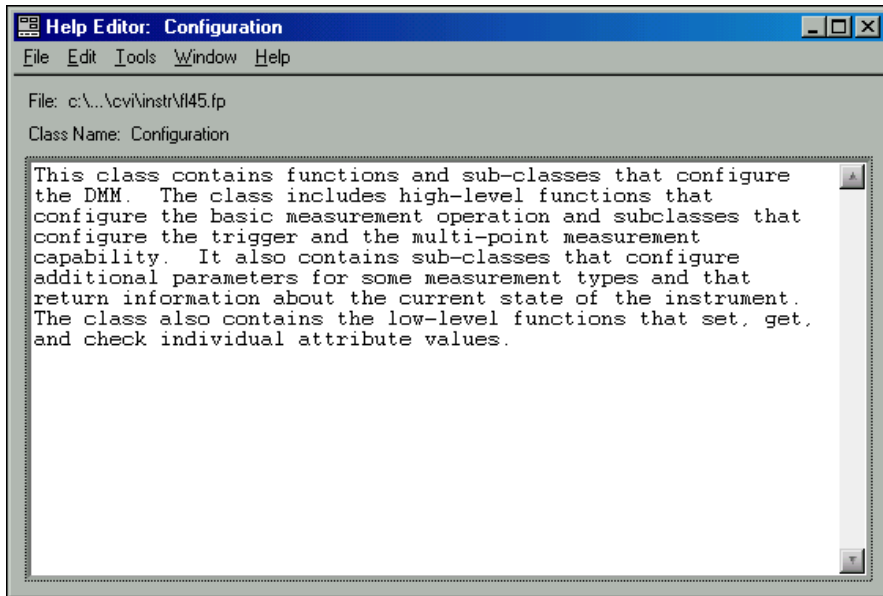

Figure 3-5. Fluke 45 Function Class Help
- Function class help briefly describes all the functions and subclasses beneath the selected function class. Figure 3-5 shows function class help from the Fluke 45 instrument driver.